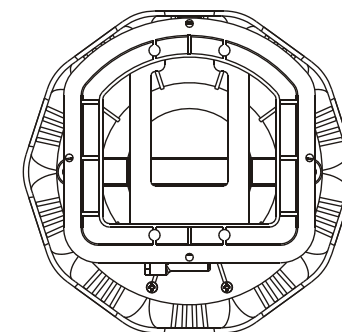

Figure 2.
2. Connect conduit to midst of Mounting Spacer (left of Bracket), see Figure 2.